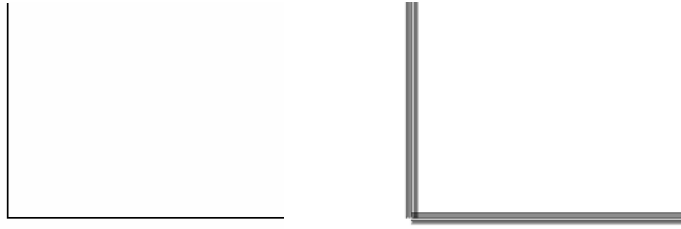

Figure 19.2: Lines drawn with a line weight of 4 and printed with a pen width setting of 12 (left) and 95 (right)
11. Determine if you have lines in your drawing with a line weight above “1.” If so, you can change the amount of space between pen passes when printing these thicker lines (see Figure 19.2). Click on PenWidth in the Plotter menu, and use the value menu to enter a width.